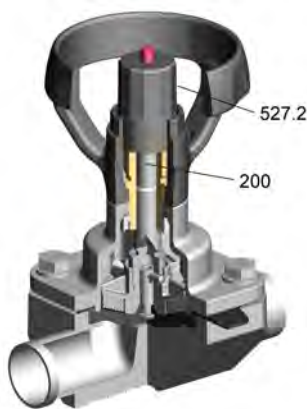

Fig. 14: SISTO-C
1. Take the valve to the required position. Turn locating sleeve 527.2 clockwise until it abuts stem 200 (⇒ Fig. 14) .